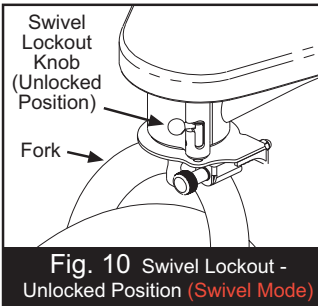
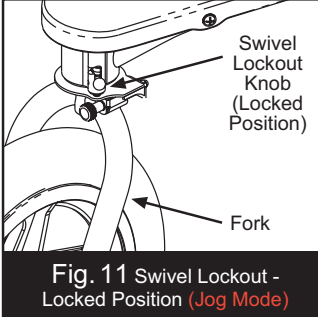

Fig. 10 Swivel Lockout - Unlocked Position (Swivel Mode)
Fig. 11 Swivel Lockout - Locked Position (Jog Mode)
6. SWIVEL LOCKOUT: The Revolution Stroller can be used in one of two modes. The stroller can be used as a swiveling wheel stroller (Swivel Mode) when the Lockout Knob is in the unlocked position (Fig. 10). Or, it can be used as a fixed wheel stroller (Jog Mode) when the swivel Lockout Knob is in the locked position (Fig. 11). To change from Swivel Mode to Jog Mode, lift and slide the Lockout Knob (Fig. 10) up and all the way to the right. Then release the knob, and it will snap down. Next, rotate the fork until the pin engages and locks the fork in position. You are now ready to use the stroller in Jog Mode. To change the stroller back to Swivel Mode, lift the Lockout Knob and rotate it to the left.